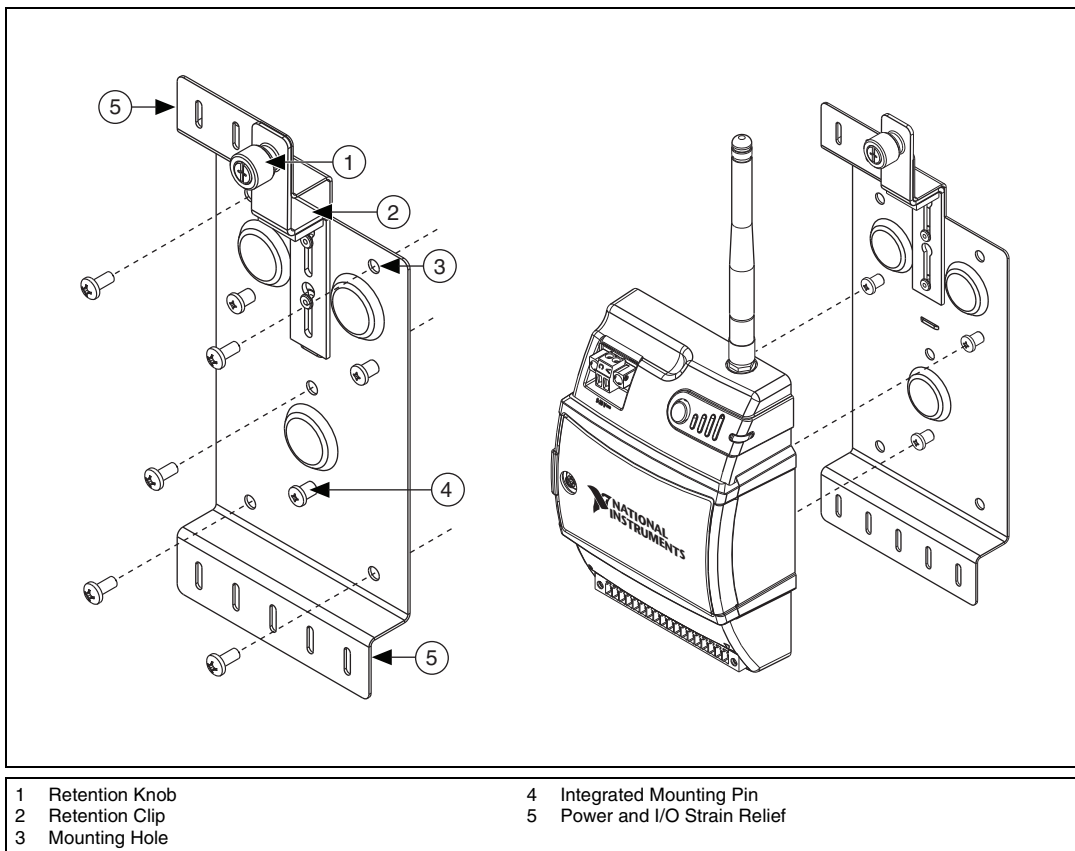

Figure 8. Panel Mount Accessory
Refer to Figure 8 while completing the following steps to mount the NI WSN-3202 on a panel:
2. Slide the NI WSN-3202 device into the panel mount accessory as shown in Figure 8.